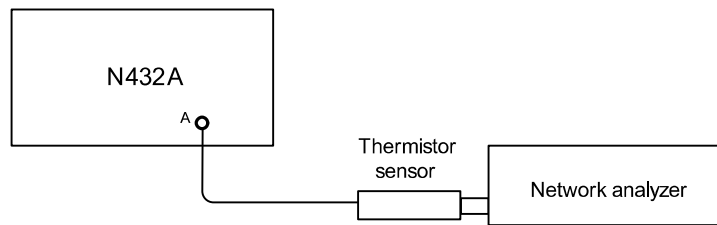

Figure 2-45 Connection diagram for VRC measurement
- 7 Set up the following connections shown in Figure 2-45. The network analyzer is used to measure the S_{11} parameter which is equivalent to the reflection coefficient of the thermistor sensor.